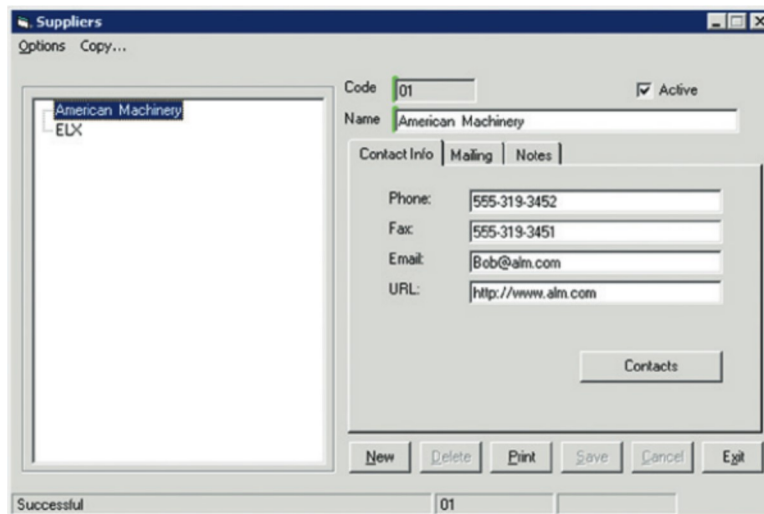

Figure 12. Suppliers dialog.
2. Select a distributor in the *Suppliers* dialog (see Figure 12).